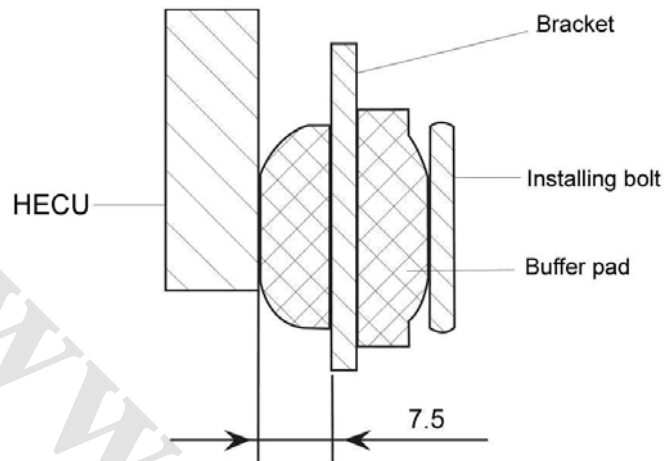

Fig. 3-10
- (1) As installation error may occur for the frictional resistance of buffer pad when tightening (3) bolts, lubricant not affecting physical property of buffer pad is preferred.
- (2) For easy operation, (3) bolts can be inserted into the buffer pad on bracket and then to HECU.
- (3) Make sure the tightening torque of (3) bolts is 20N·m with a special tool, torque wrench, as shown in Fig. 3-10.